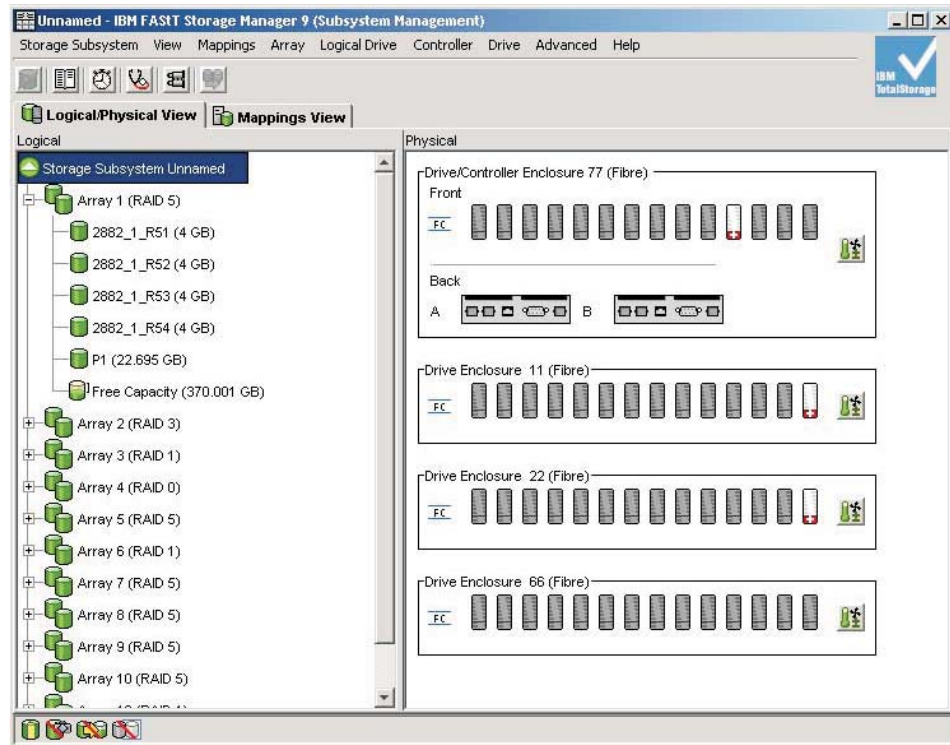

Figure 23. Subsystem Management window
2. Click **Tools** → **Manage Device**. The Subsystem Management window opens, as shown in Figure 23 on page 121.